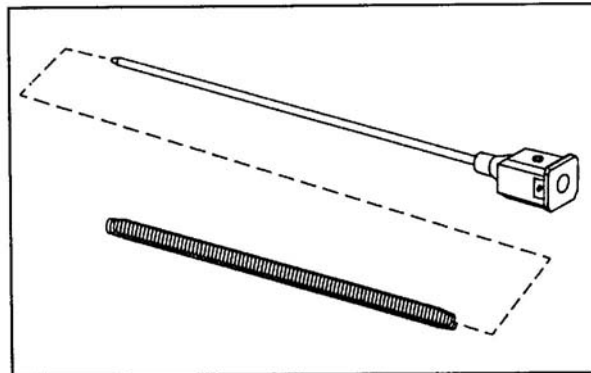

Figure 3. Removal of the spring.
- (3) Separate the spring from the return rod and transfer mechanism assembly (Figure 3).